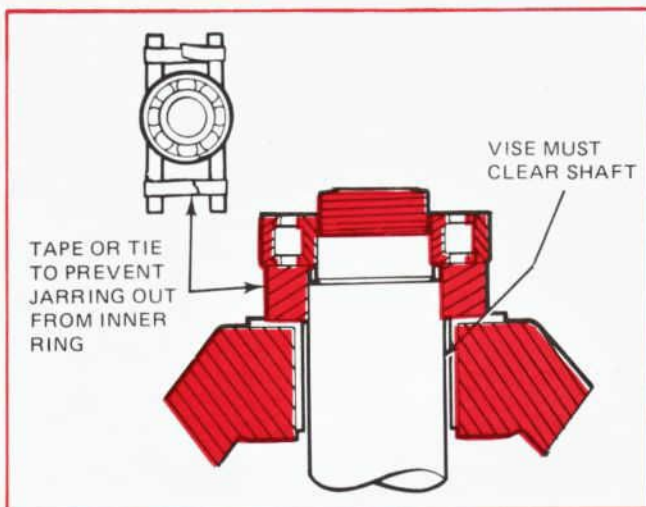

Figure 17 – Set shaft and bearing in vice as shown:
1. Set bearing and shaft in position on vice jaws as shown in Fig. 17.